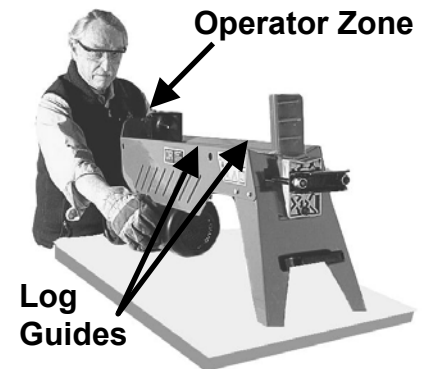

Figure 6
Note: Always be sure to stand inside the **Operator Zone** to run the wood splitter (*Figure 6*). This is the area directly behind your DR 4 -Ton WOOD SPLITTER. Never operate the wood splitter from anyplace else.
- For best splitting results, place log flat on the beam between the Log Guides (*Figure 6*) with butt end toward hydraulic cylinder ram.